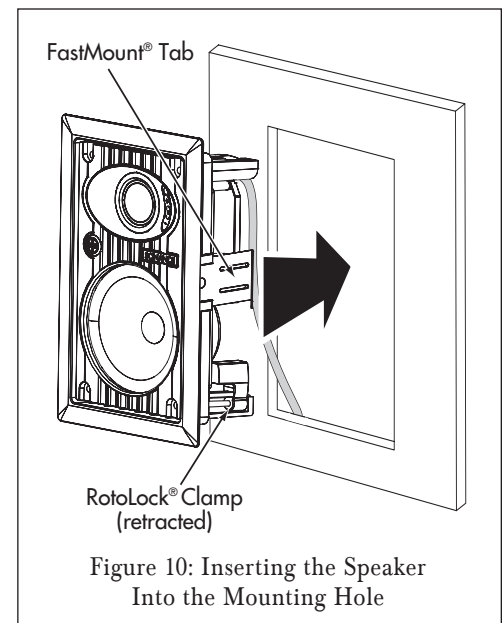

Figure 10: Inserting the Speaker
5. Make sure all the RotoLock clamps are in the full clockwise position so that they are tucked within the mounting hole's border. Insert the speaker into the hole in the wall (*Figure 10*). The RotoLock system can accommodate a maximum wall material thickness of  $1\frac{1}{4}$ ".